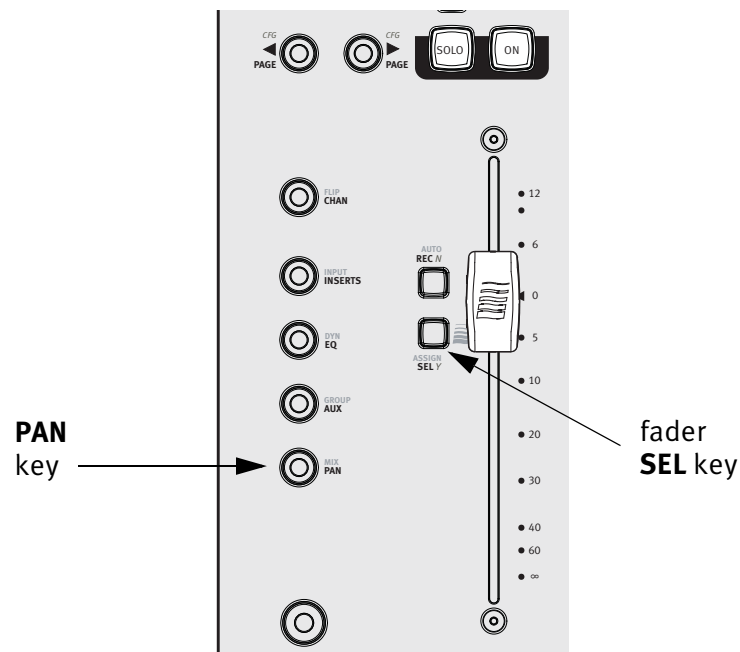

Figure 3-1 Strip 1 fader **SEL** key
1. Press the MC Mix's strip 1 fader **SEL** key (Figure 3-1).
3. When the MC Mix is first powered up, the **PAN** key is lit by default. If it is not press the **PAN** key (Figure 3-1).